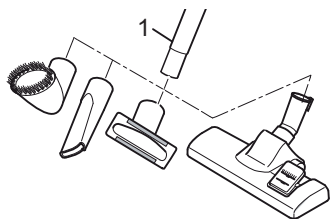
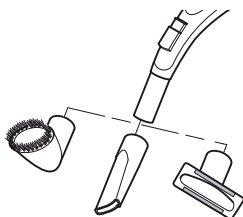

Fig. 8
Fig. 9
3. Push the desired nozzle on the lower end of the telescopic tube (Fig. 8) or if necessary directly onto the handle (Fig. 9).